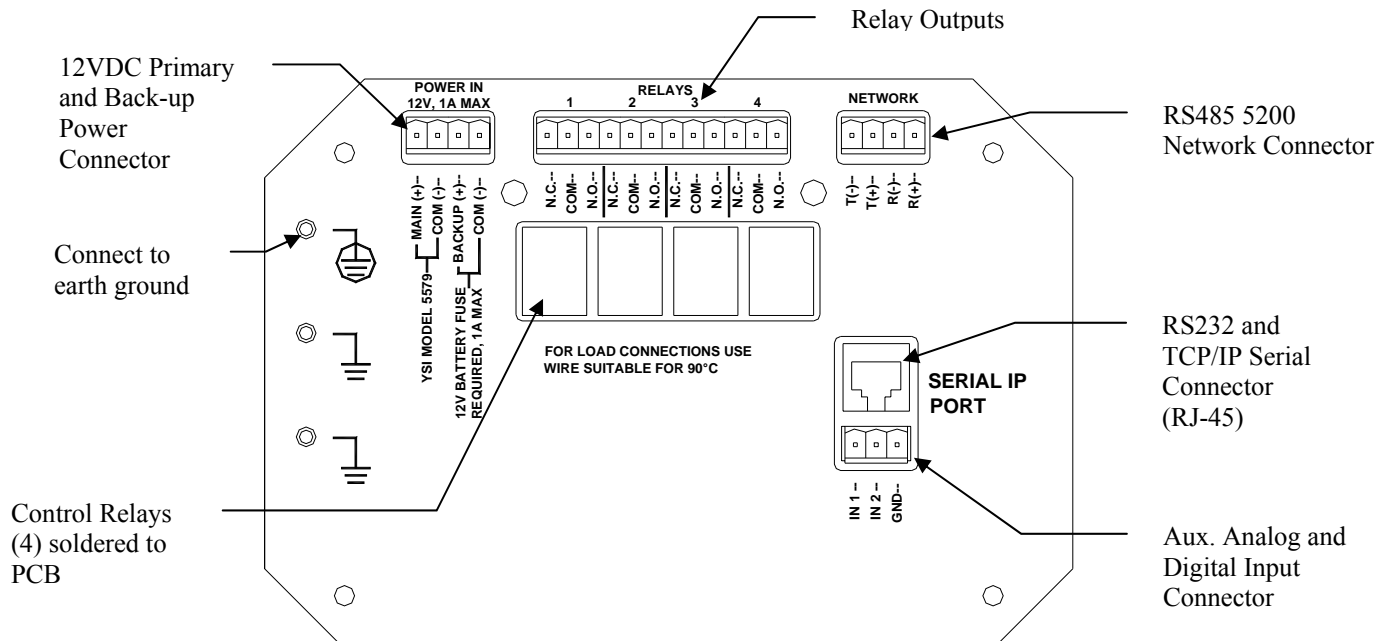

Figure 3-8 I/O Plate
**CAUTION:** The sensitivity and stability of the monitor will be impaired if the monitor is not grounded. **Do not** apply power to the Monitor until all electrical connections are verified and secure. Connect earth ground to the 5200 I/O plate (see Figure 3-8 I/O Plate).
The electrical system must be grounded via the I/O plate to avoid possible electrical shock or damage to the equipment (see Figure 3-8 I/O Plate).